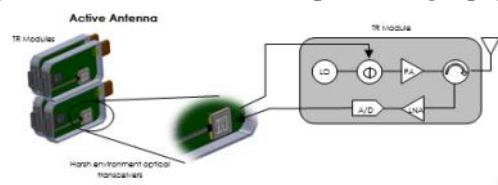

Fig. 3 : TR module details.
The TR modules that composed (fig. 3) the active antenna integrates a radiating element (the antenna itself) followed by a circulator/duplexer that connect the antenna to the transmitter power amplifier (PA) or the receiving low noise amplifier (LNA). The phase of the local oscillator (LO) is controlled through a digital circuit by the processing equipment. The received signal, after amplification and filtering, could be digitalized and transferred to processing equipment.